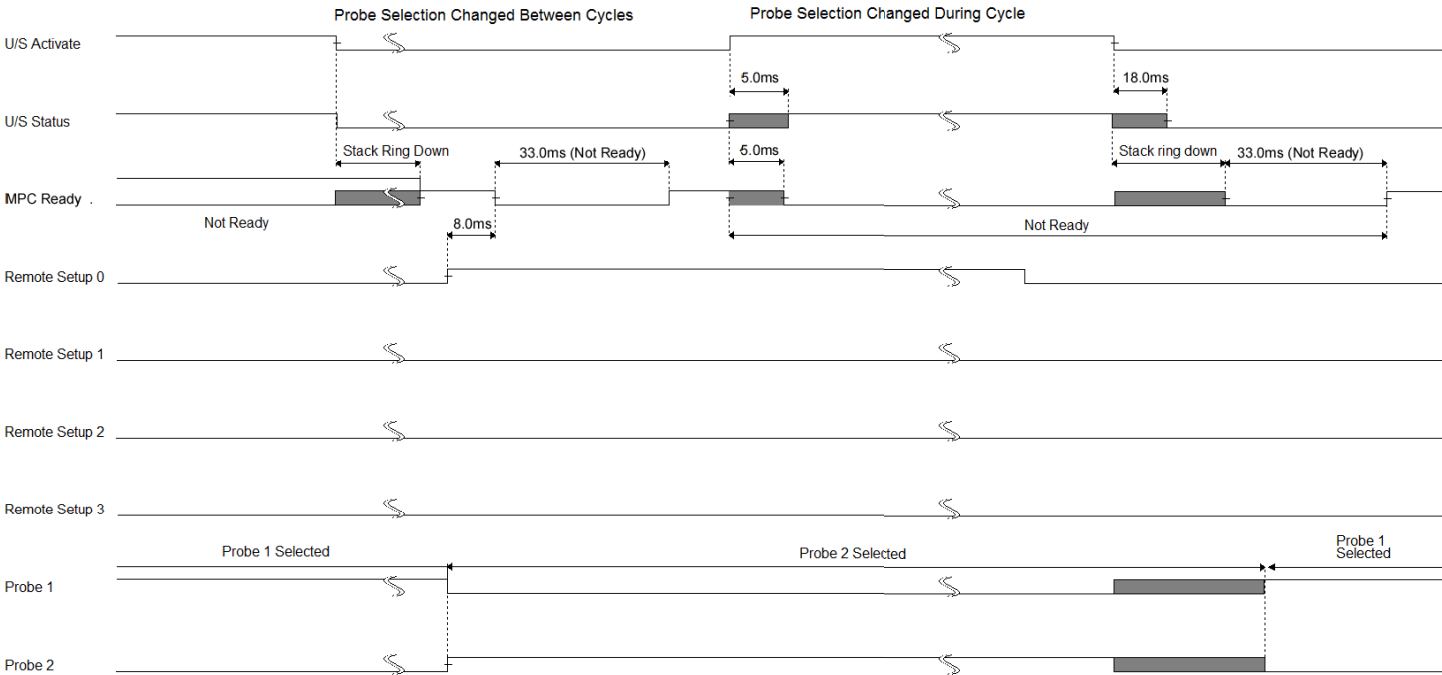

Figure 3 LS / LS-E with MPCQ Weld Cycle (Weld-by-Automation)
**Probe selection changed between weld cycles:** Although the probe selection can be changed at any time this method is the safest and most predictable. The PLC program should monitor the MPC Ready output and when it becomes active change the probe selection using the Remote Setup inputs. This will insure that the stack ring down from the previous cycle is finished. After a delay of at least 33ms, the MPC Ready output will change to inactive (low in this case) again and stay that way for 33ms. See Figure 3 where Remote Setup 0 changes from low to high. The PLC should continue to monitor the MPC Ready output and start the next cycle when MPC Ready activates (high in this case).
**Probe selection changed during a weld cycle:** Alternately the Remote Setup inputs can change during the weld cycle. The MPC circuitry will not select a new probe when the MPC Ready output is not active. As can be seen in Figure 3, Remote Setup 0 input is changed to inactive before the weld cycle completes. Once the stack ring down completes the relays switch so that probe 1 is selected almost immediately, but the relay takes up to 8ms to settle. The MPC Ready output will remain inactive for 33ms after ring down completes. In this case the PLC must monitor the MPC Ready output and not activate the U/S Activate input until the MPC Ready signal is active.